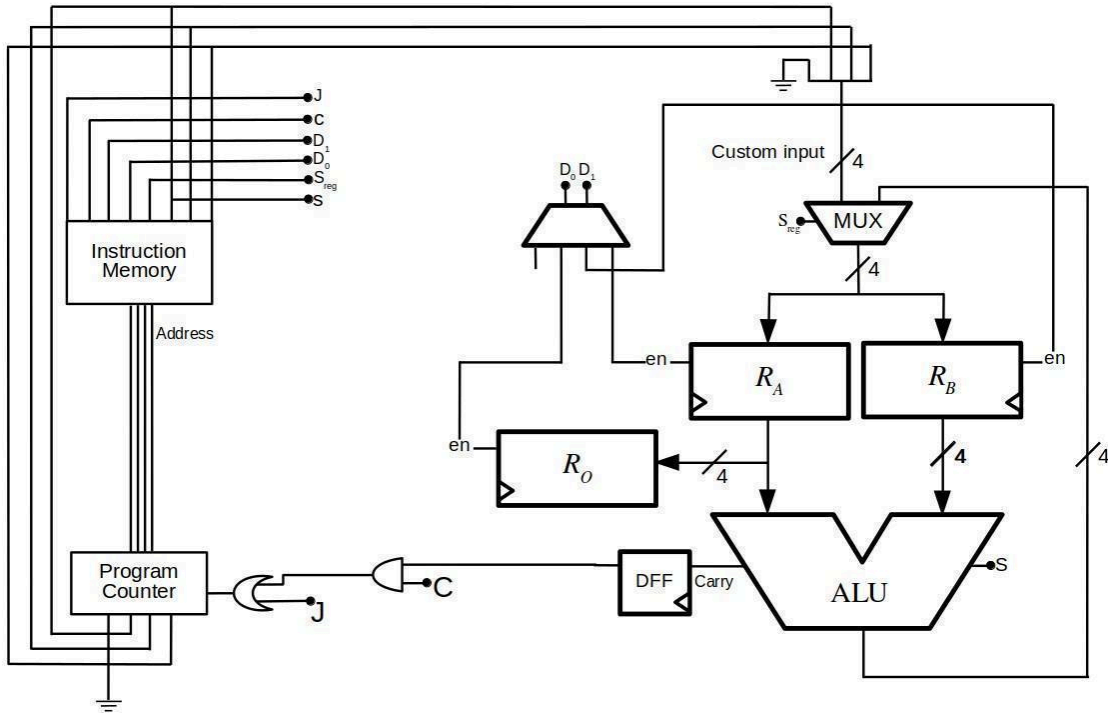

Figure 10: 4-bit K2 Microprocessor
- Write the K2 Microprocessor simulator shown in Figure 10.